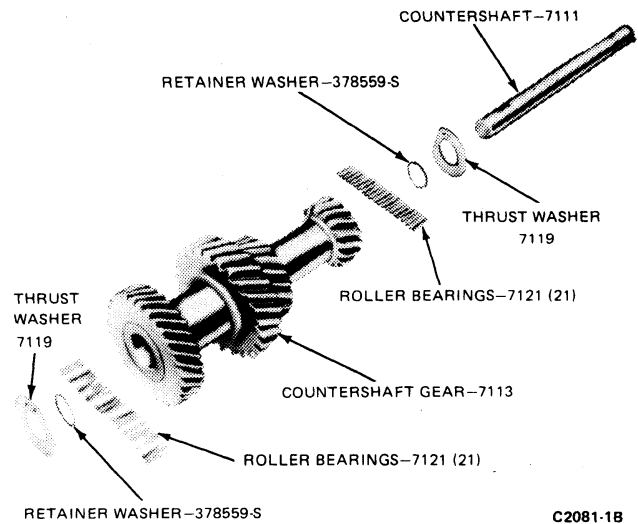

FIG. 20 Countershaft Gear Disassembled
1. Remove the dummy shaft, two bearing retainer washers and the 21 roller bearings (Fig. 20) from each end of the countershaft gear.